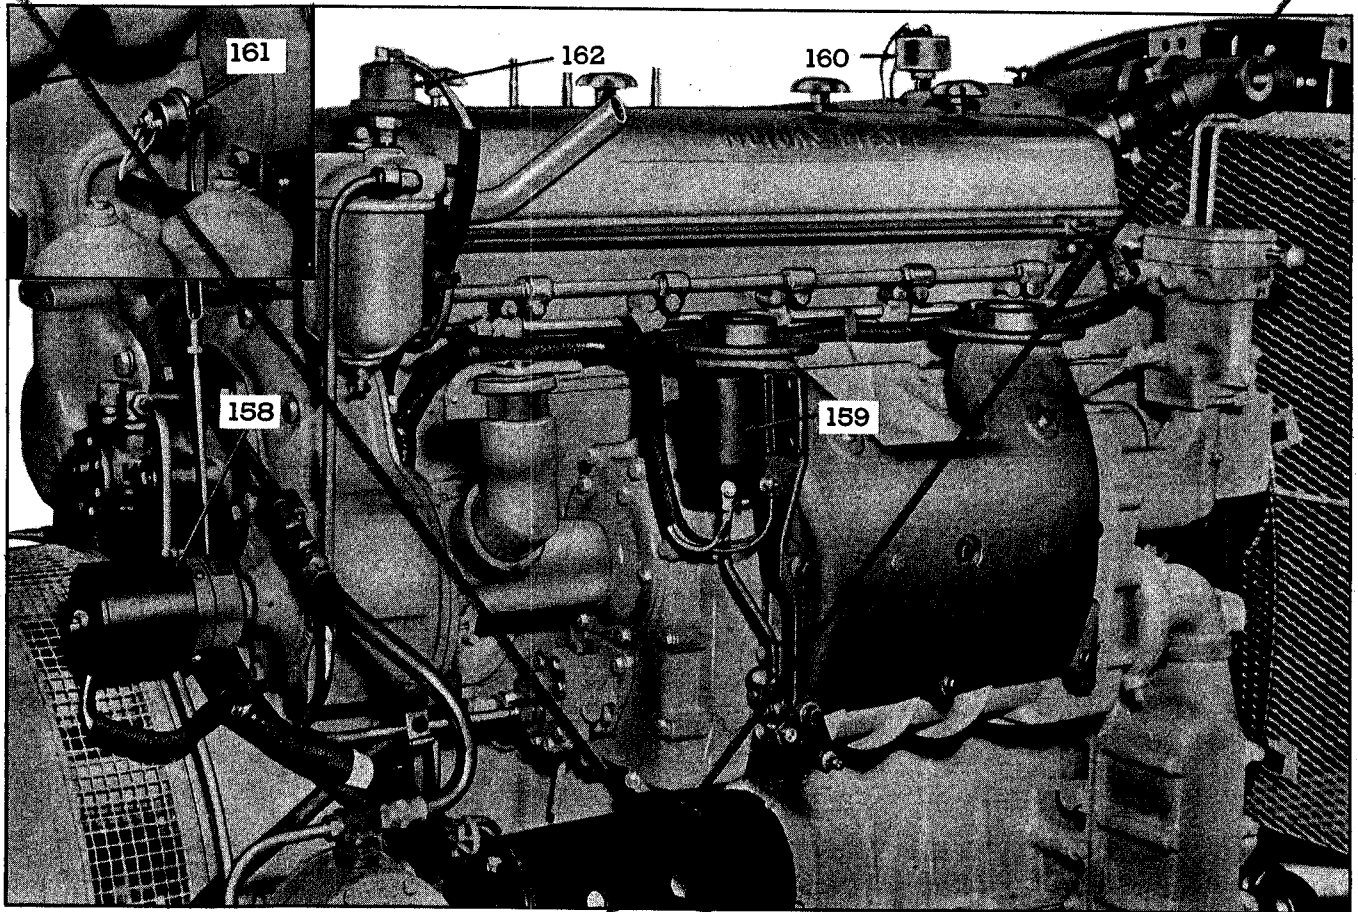

Fig. 10—Typical Installation of Electrically Operated Shut-Down Device.
One device consists of a lubricating oil pressure switch (161), a coolant temperature switch (160), a fuel oil pressure switch (162), a solenoid coil (159), and suitable electrical wiring to complete the circuit through the storage battery. Fig. 10 shows the typical positions of the various switches. The lubricating oil pressure switch extends into the oil gallery, the coolant temperature switch is mounted on the water manifold, the fuel oil pressure switch connects into